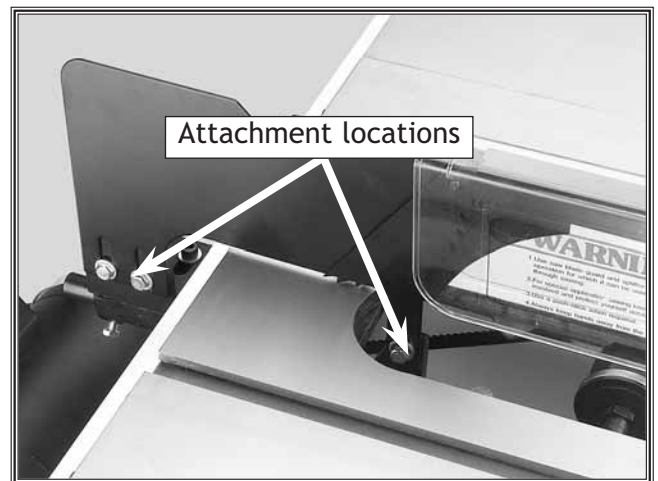

Figure 36. Blade guard/splitter attachment locations.
5. Install the blade guard in the attachment locations as shown in Figure 36.